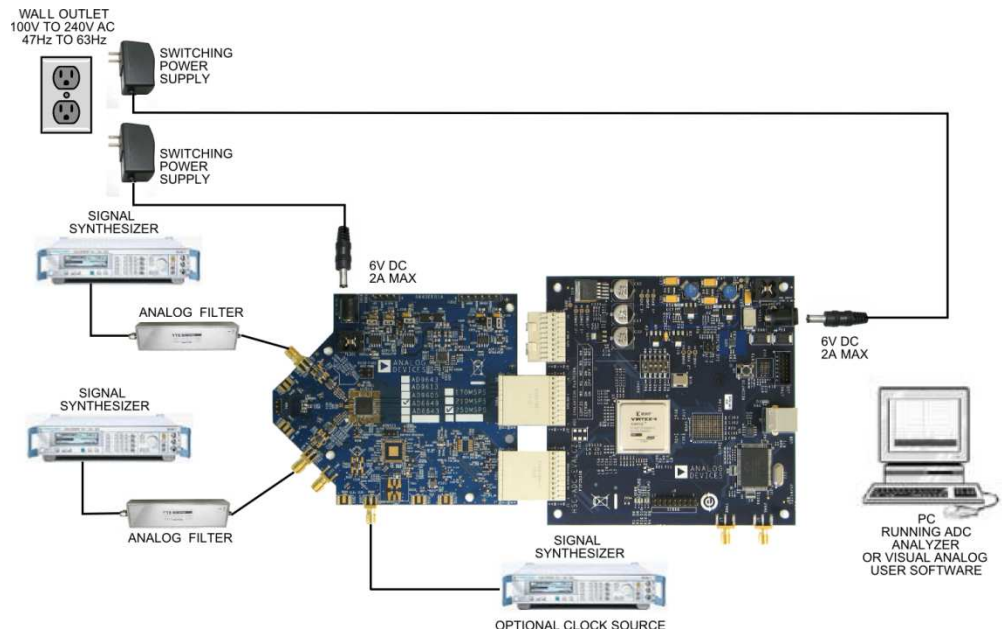

Figure 1: AD9643 Evaluation Board with HSC-ADC_EVALCZ Data Capture Board
1. Connect the AD9643 evaluation board and the HSC-ADC-EVALCZ board together as shown in Figure 1.
9. Next open the SPI Controller software. If prompted for a configuration file, select the configuration file titled AD9643spiR03.cfg. If not, check the title bar of the window to see which configuration is loaded. If necessary, choose "Cfg Open" from the "File" menu and select one of the configuration files named above. Note that the CHIP ID(1) field may be filled whether the correct SPI Controller configuration file is loaded or not.
11. Set the DCO Clk Delay Enable checkbox in the FLEXOUTPUT DELAY(17) panel on the ADCBase0 tab as shown below. In addition, set the DCO Clk Delay register to the '600ps